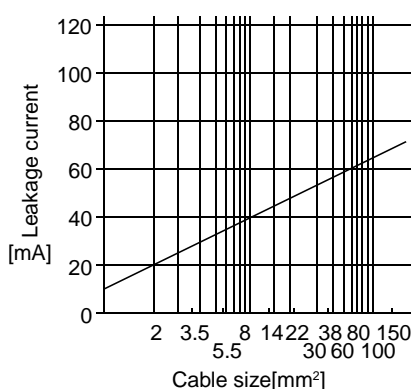

Fig. 12.1 Leakage current example (Ig1, Ig2) for CV cable run in metal conduit
- Ig1: Leakage current on the electric channel from the leakage current breaker to the input terminals of the servo amplifier (Found from Fig. 12.1.)
- Ig2: Leakage current on the electric channel from the output terminals of the servo amplifier to the servo motor (Found from Fig. 12.1.)